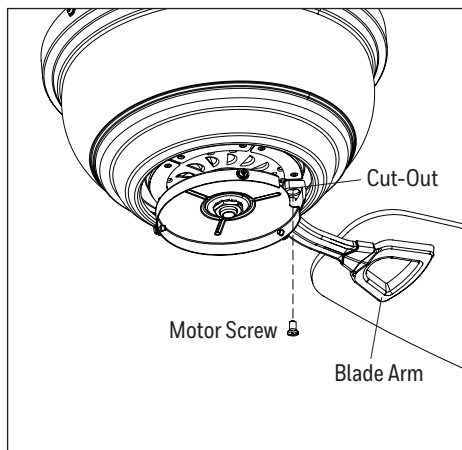

Figure 2.10
10. Insert two previously removed motor screws through one blade arm and into the motor. Tighten motor screws securely. Repeat with remaining blade arms, making sure to completely secure each blade arm before proceeding with to the next (Figure 2.10). **Note:** A cut-out in the fitter plate allows easy access to the motor screw holes.